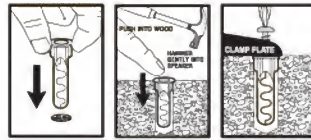

Fig. 3
To maximize pull-out strength, the screw shaft needs to be located in the center of the joist. (See Fig. 3)
1.6-Remove the clamp assembly and hand insert four togglers into each hole. Using a hammer, tap gently until the bottom of the toggler flange is flush with the surface of the speaker (Fig. 3).